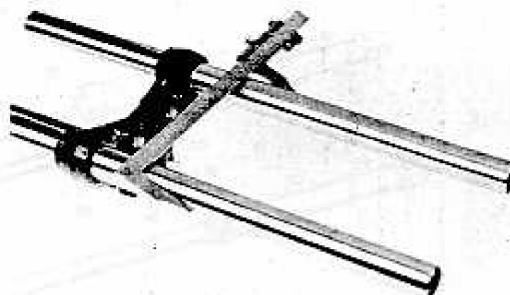

Fig. 205
- Con un lungo calibro a corsoio misurare in vari punti la distanza tra i due steli. La differenza tra le varie misure ottenute non deve essere superiore a 0,10 mm (Fig. 205).
- Having checked the stanchions for truth, install them in the lower yoke and tighten the pinch screws firmly. With a vernier caliper of suitable size measure the distance between the two stanchions in several points. The figures obtained should agree within 0.10 mm (Fig. 205).